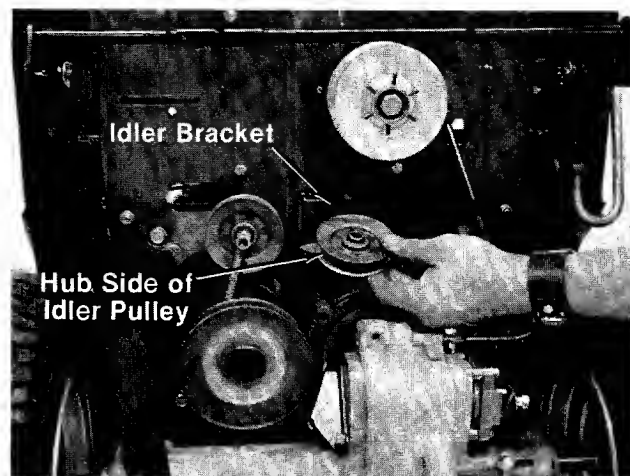

FIGURE 42.
9. Upon reassembly of idler pulley, be certain the hub side of idler goes against the idler bracket. See figure 42.